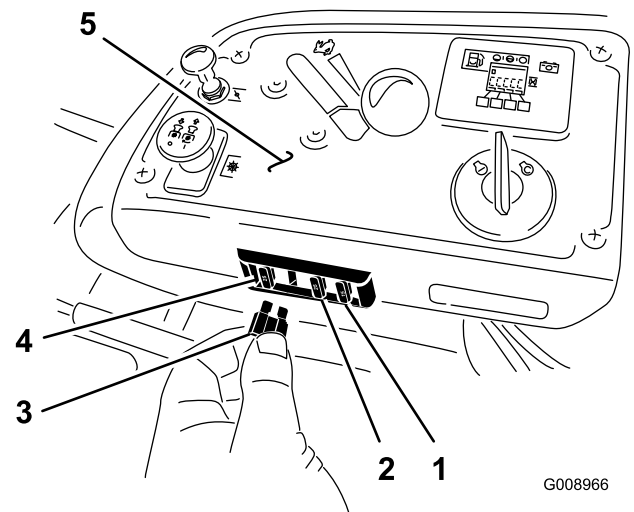

Figure 69
1. The fuses are located on right hand console next to the seat (Figure 69).
3. Install a new fuse (Figure 69).